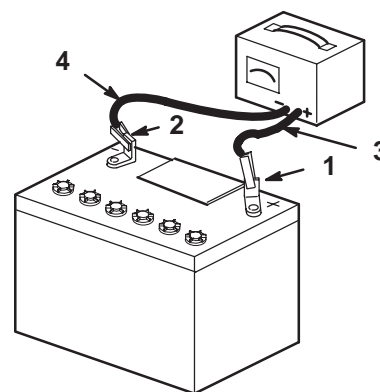

Figure 43
4. When the battery is fully charged, unplug the charger from the electrical outlet, then disconnect the charger leads from the battery posts (Fig. 43).